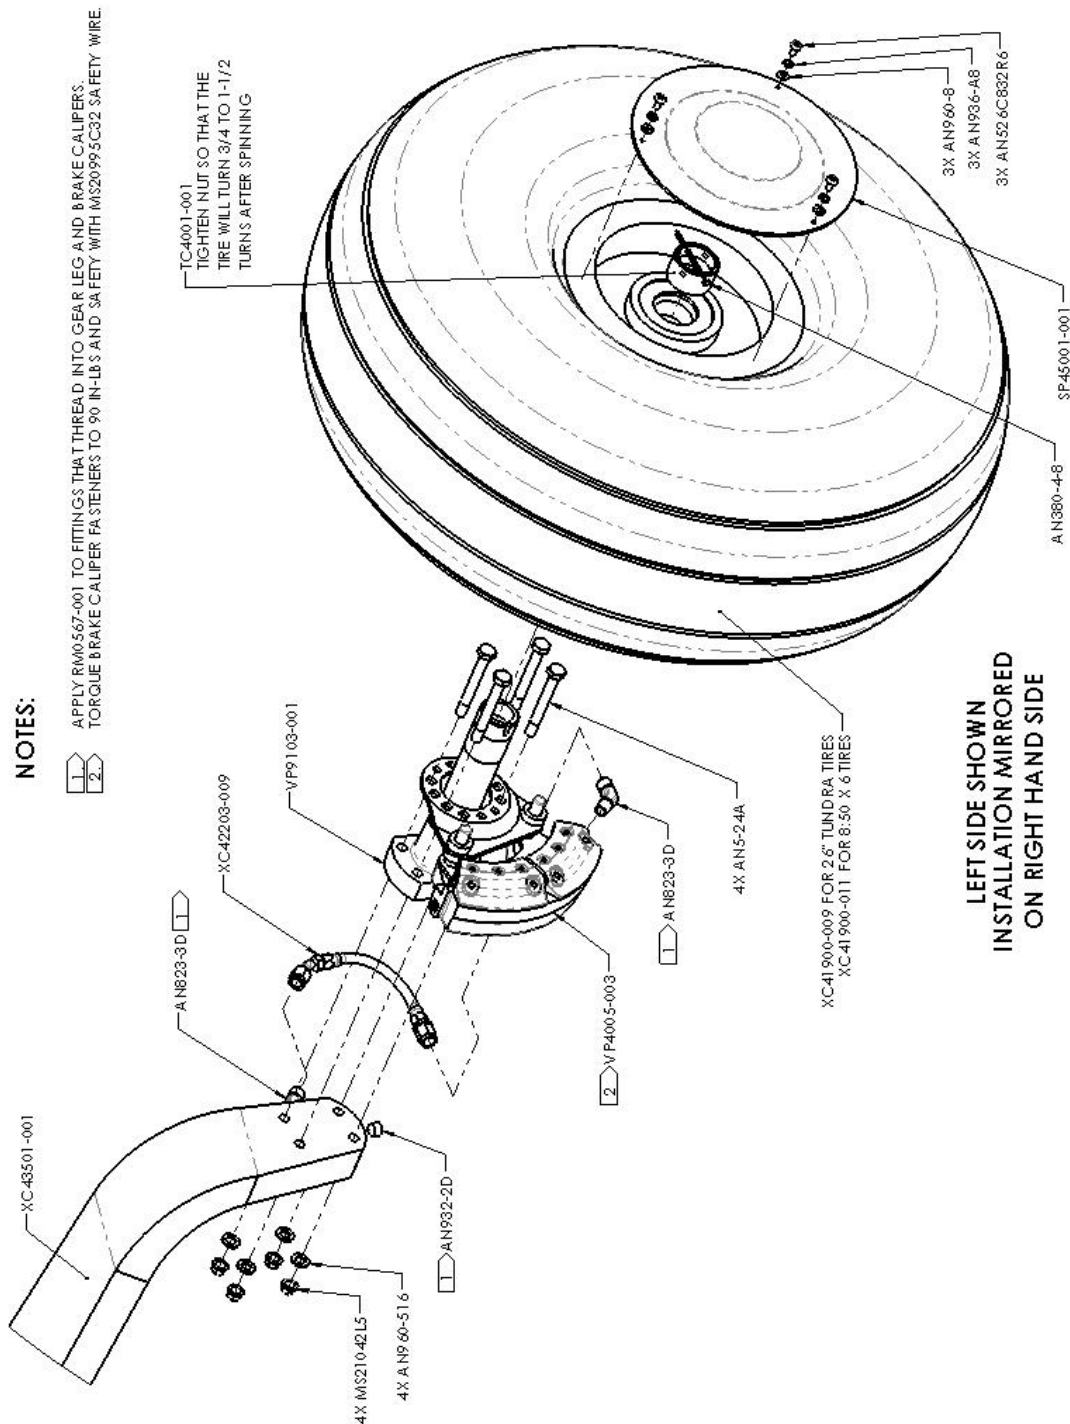

Figure 10 – Spring Gear Assembly
21. Assemble the new spring gear with brakes and wheels as shown in Figure 10. (If desired, some components from the taildragger landing gear, like the hubcaps, axle nuts, axle, and brakes may be re-used) Goodyear 26" tundra and Goodyear 8:50 x 6 tires may also be re-used)